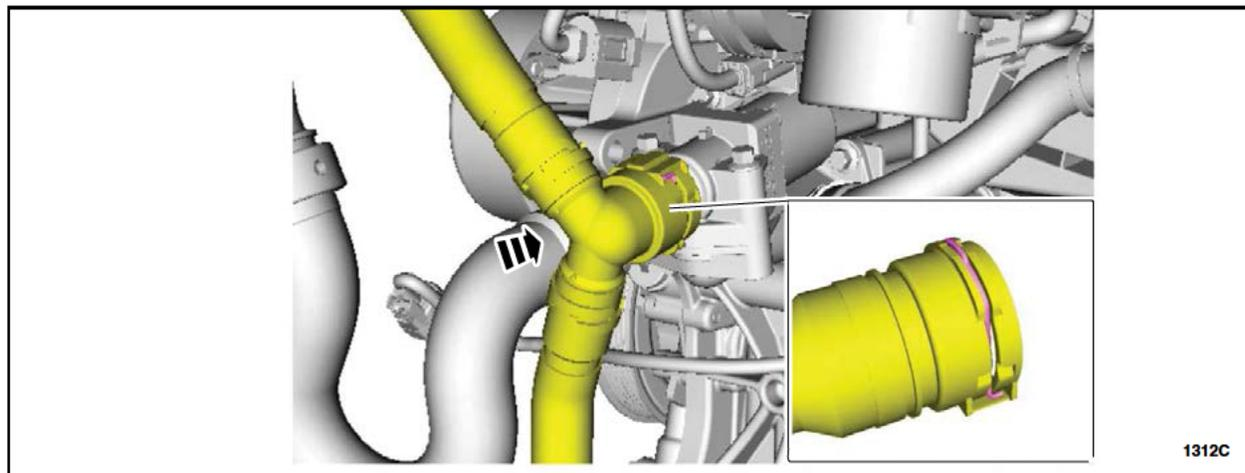

FIGURE 16
11. Connect the quick connect T-fitting to the coolant shutoff solenoid valve. See Figure 16.